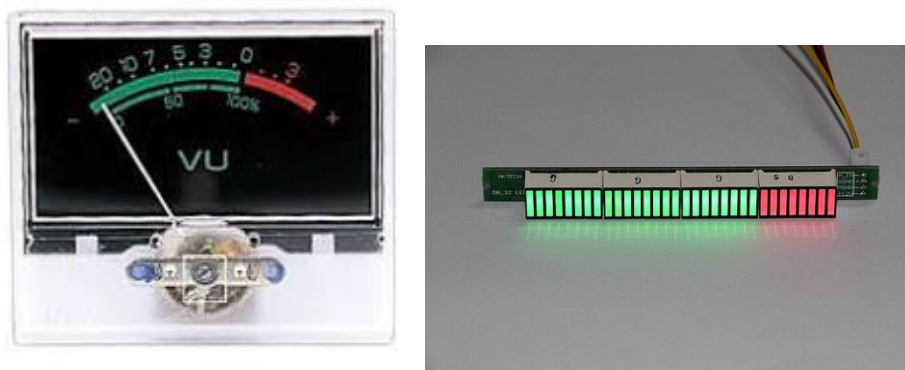

Figure 1 VU Meters, left – moving coil, right - LED
Many different audio devices employ a volume unit (VU) meter to visually indicate the volume level of an audio signal. This is basically a visual indication of the voltage level of the signal in real time and can be indicated by a moving arm meter or LED bar as shown in Figure 1.
noise from the dual rail power supply. The display unit will then light up a sequence of LEDs which are proportional to the volume of the audio signal detected like the one in Fig. 1.
By this stage you should have an audio signal with a voltage of at around 500 mV. You want a maximum signal, when the audio is loudest of no more than 1 V, however it will depend a bit on your audio source and its alignment with the microphone. The final stage of the project is to design and build a LED bar-graph display which indicates the level of the signal. The higher the voltage, the more LEDs that will illuminate as seen in Fig. 1.